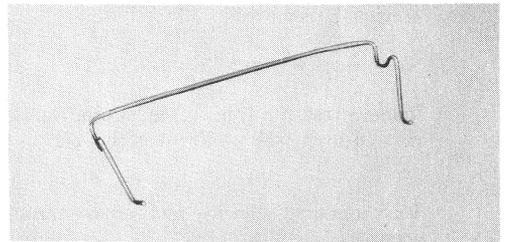

Fig. 45—840157333 Trap Lever Spring
- (4) If this firm **but not excessive** downward force does not cause the trap lever spring to release the trap, the existing spring is operating adequately. If the armature of the coin relay moves by this action, a new 840157333 wire spring (Fig. 45) should be installed as directed in paragraph 5.13. However if the armature of
one's fingers and countertwisting them until both legs are aligned properly as illustrated in Fig. 45.